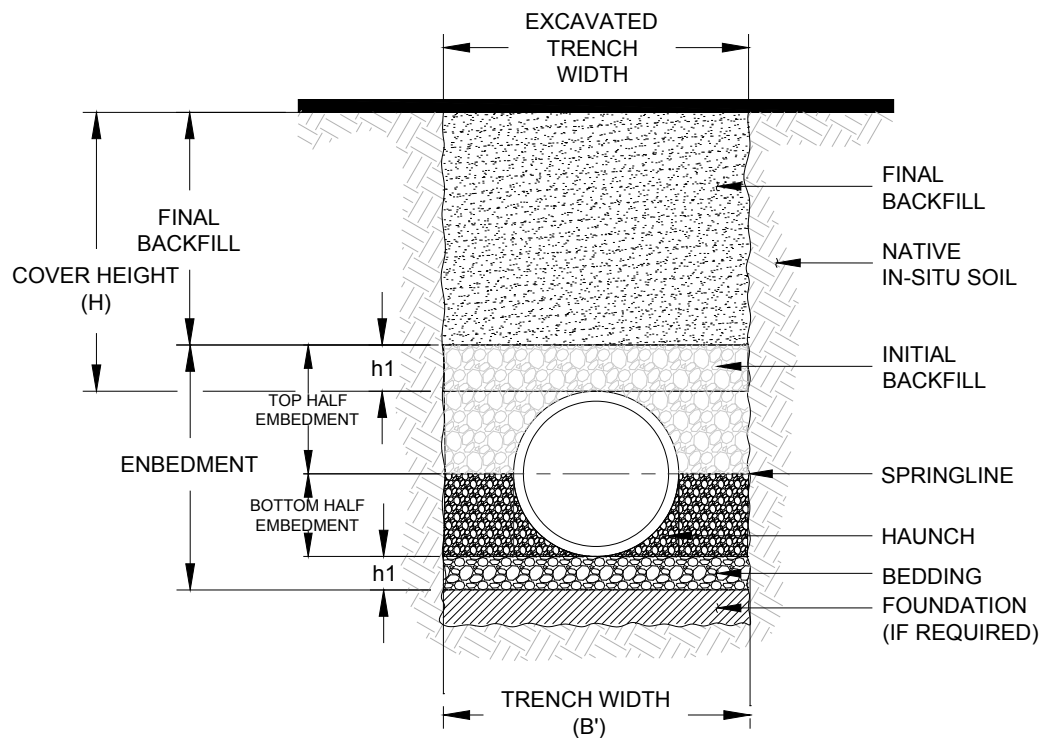

Figure 1 – General Trench and Embedment Terminology
1. Top half is defined as the backfill material used above the springline in the embedment shown in Figure 1 below.
2. Bottom half is defined as the backfill material used below the springline in the embedment shown in Figure 1 below.